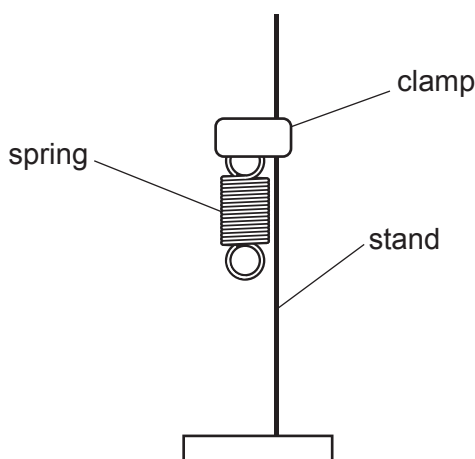
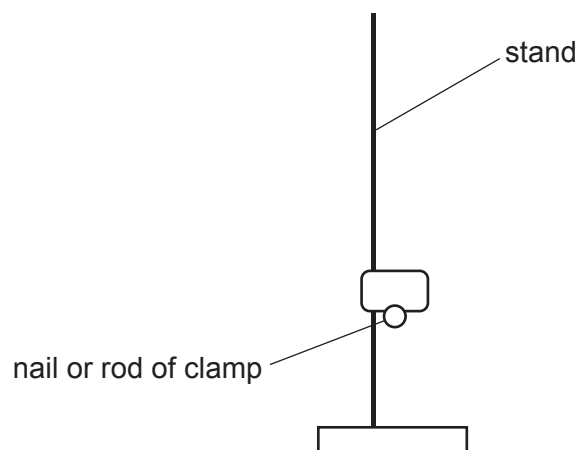
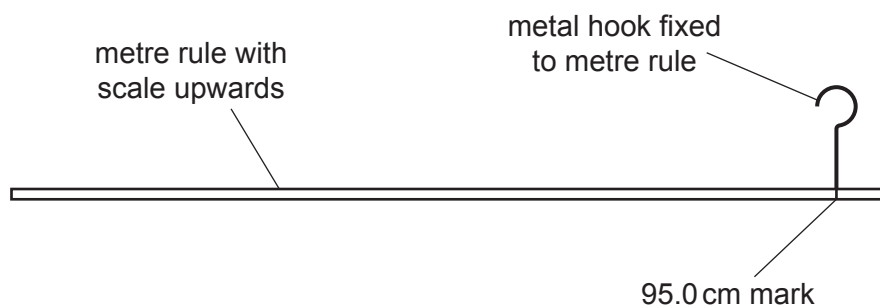

Fig. 1.1
Fig. 1.2
Fig. 1.3
2. One clamp, boss and stand must be provided to candidates with the spring suspended from the clamp, as shown in Fig. 1.1. The stand must be sufficiently tall to support the spring with a 2.0 N load without the load touching the bench.
3. A second clamp, boss and stand must be provided to candidates, as shown in Fig. 1.2. The nail or rod should be held by the clamp and must protrude to allow the metre rule to rest on the rod. Alternatively, the rod of the clamp may be used as the support for the metre rule.
6. If the metre rule has two scales in opposite directions, one scale must be taped over. A wire hook must be fixed at the 95.0 cm mark, as shown in Fig. 1.3. The hook should be taped to the rule so that its position does not change during the experiment. Candidates will be required to attach the hook to the lower loop of the spring. Candidates must be able easily to attach and separate the hook and spring.
7. The apparatus must be presented to candidates as shown in Fig. 1.1, Fig. 1.2 and Fig. 1.3, with all other apparatus provided unassembled.